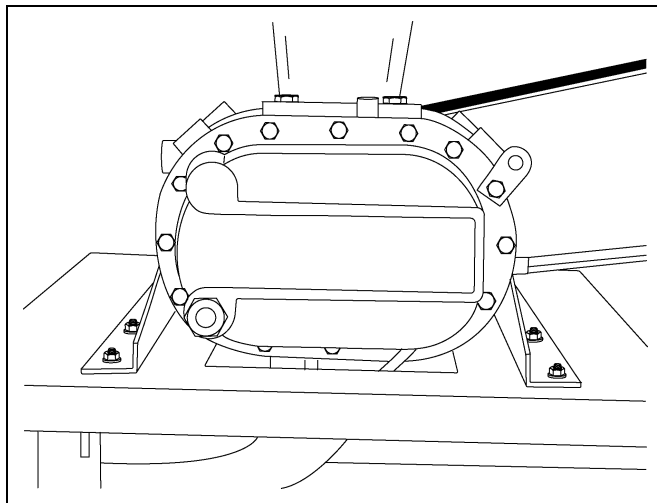

Figure 7I
7. The oil level should be at the center of the sight glass on the blower. Add part # MS5389 if required. DO NOT operate blower until correct oil level is indicated. The 4" roots blower has sight glasses on both ends. Be sure oil levels are indicated on both sight glasses. (See Figure 7I.)